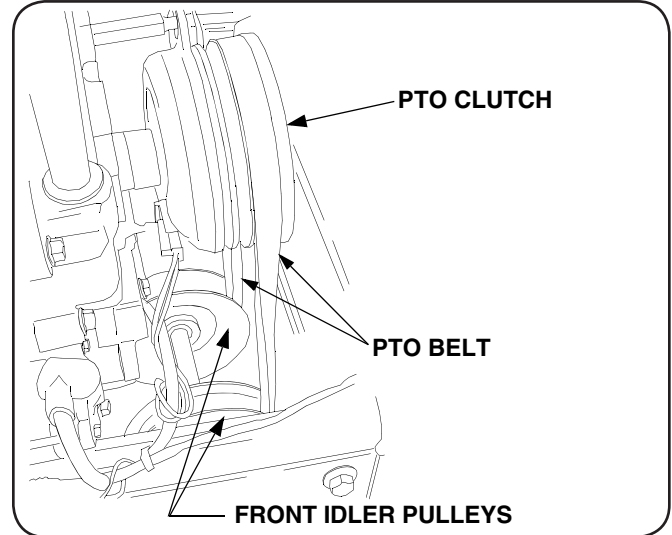

Figure 5-6
- Install the appropriate PTO belt (D or E) on the PTO clutch pulley on the front of the engine by passing the belt upward inside the front of the tractor frame. Make certain the narrow side of the PTO belt engages the groove of the clutch pulley. See Figure 5-6.
- Twist the PTO belt 1/4 turn inward to engage the narrow sides of the belt in the grooves of the tractor's two front idler pulleys. Refer to Figure 5-6.
6. Remove the PTO belt from the PTO clutch pulley and pass the belt downward through the bottom of the tractor frame to remove the belt from the tractor (Refer to Figure 5-6).